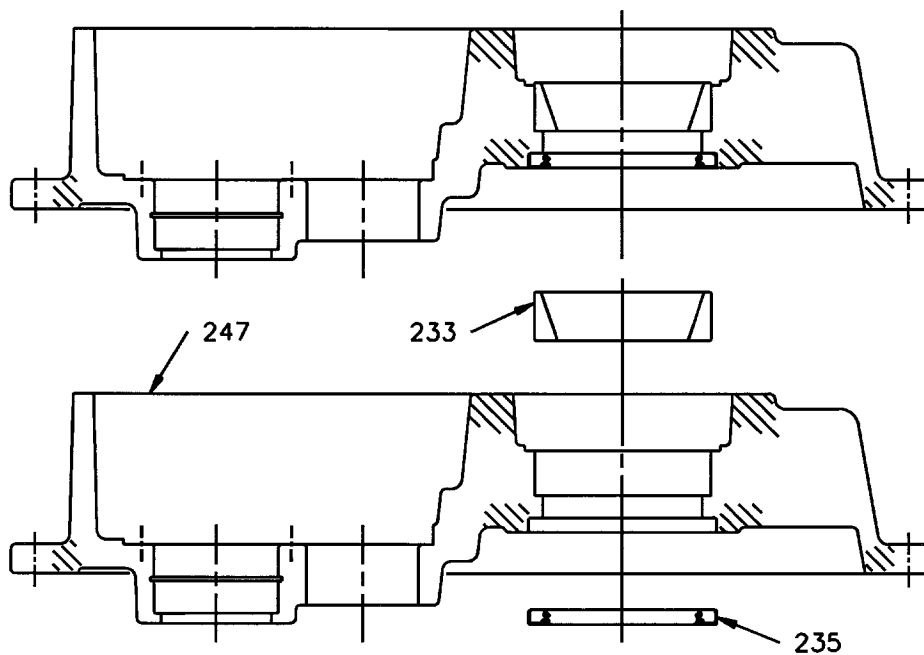

Figure 9A: Gear Drive Lid [247]
9. Remove lip seal [235] and bearing [233] cup from the gear drive lid. See Figure 9A, page 12. Remove bearing cup [217] from the gear drive lid. See Figure 14, page 19.